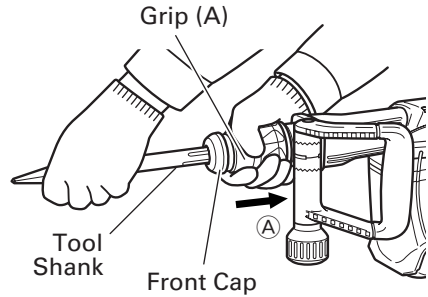
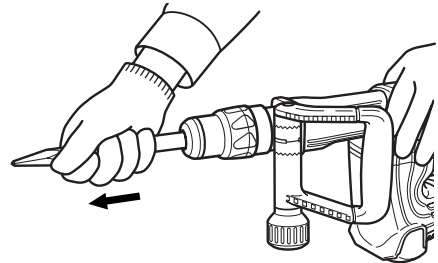
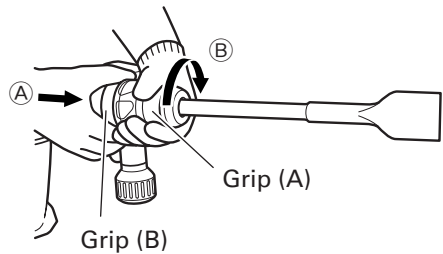

Fig. 2
Fig. 3
Fig. 4
- (1) Clean the shank portion of the tool.
- (2) As shown in Fig. 2, pull grip (A) in the direction of (A), and insert the tool into a hole of the front cap.
- (3) Adjust the groove position while turning the tool, and furthermore insert it until it hits the end of the hole.
- (4) Return grip (A) to its original position, pull the tool to make sure it is locked completely. (Fig. 3)
- (1) As shown in Fig. 4, the blade angle can be freely changed if the grip (A) is turned in the direction of (B) in a state where grip (B) is slid in the direction of (A).
- (2) Release grip (B) and turn the tool, and make sure that it is locked completely.
As shown in Fig. 2, pull grip (A), and pull out the tool.